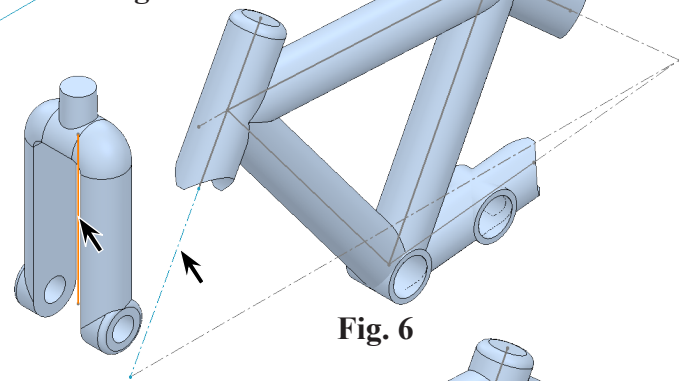

Fig. 6
Step 5. Click **Head Tube construction line in Frame sketch** and **line in Fork**, **Fig. 6**.